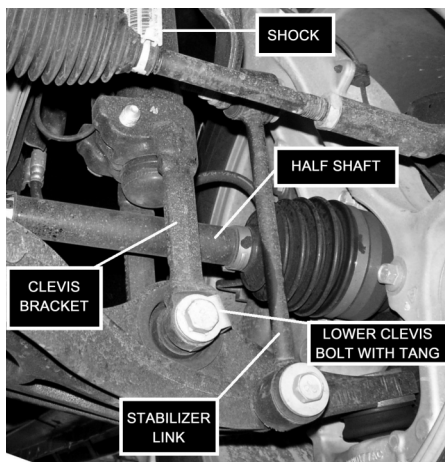

FIGURE 1
10. On 4WD vehicles remove the clevis bolt at the bottom of the shock (SEE FIGURE 1).
11. Remove the lower clevis bolt and nut at the lower control arm (SEE FIGURE 1).
12. Remove the stabilizer link lower mounting bolt on the lower control arm (SEE FIGURE 1).